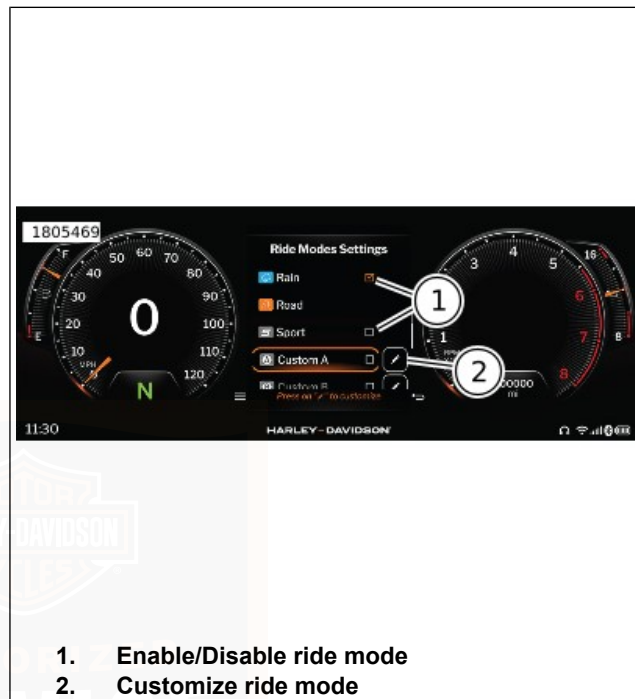

Figure 71. Ride Modes Settings
Figure 71 The list of ride modes selectable through the mode switch can be customized. To enable or disable a ride mode use the check box (1) next to each ride mode in the ride mode menu.